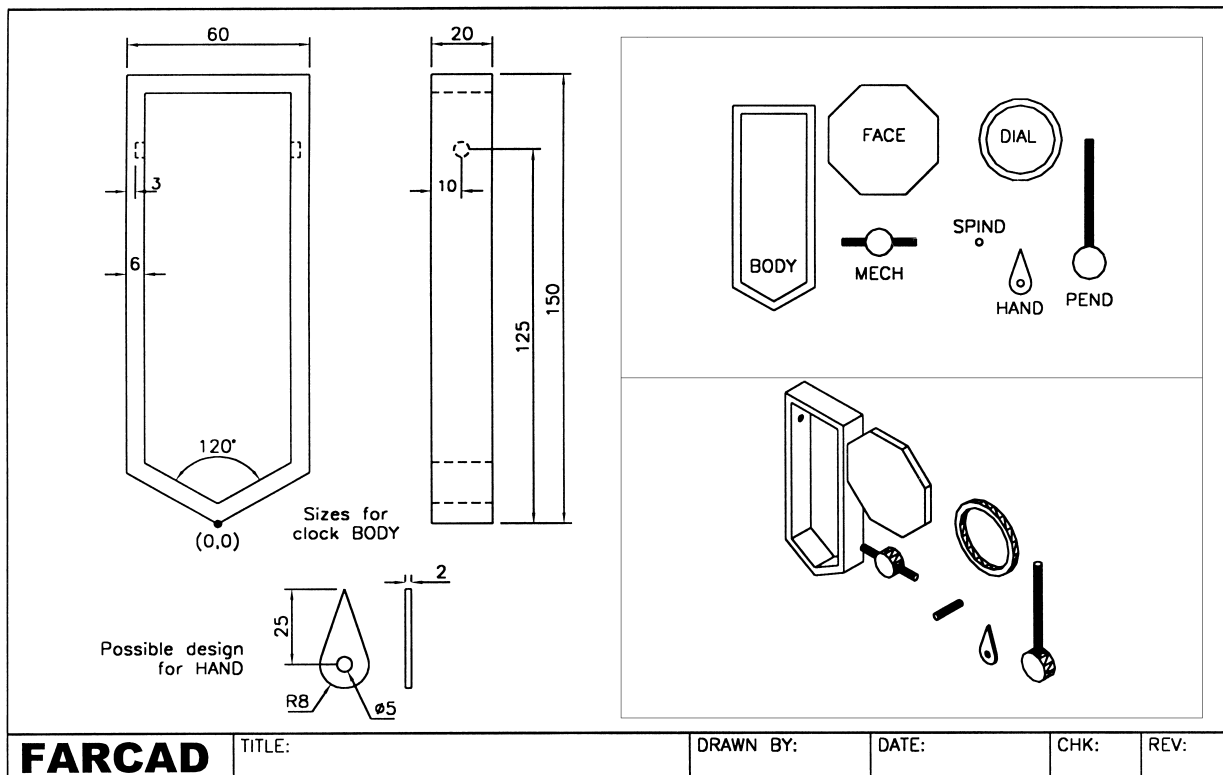

Figure 42.3 Wall clock solids for block creation.
- 2 Refer to Fig. 42.3 which displays the blocks to be created.